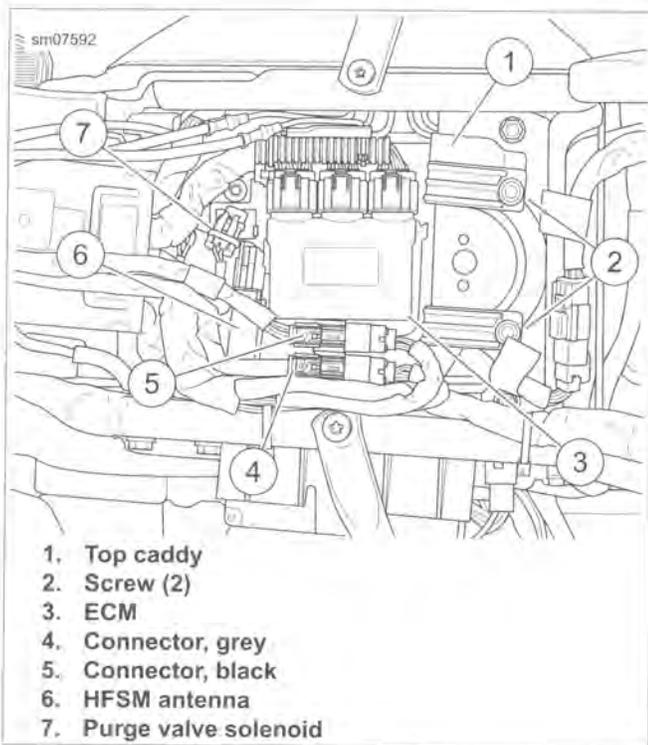

Figure 4-7. Top Caddy
- See Figure 4-7. Separate fuel pump connector (4). Separate rider headset harness connector (5) if equipped.
- See Figure 4-7. Disconnect fuel pump connector (gray) (4).